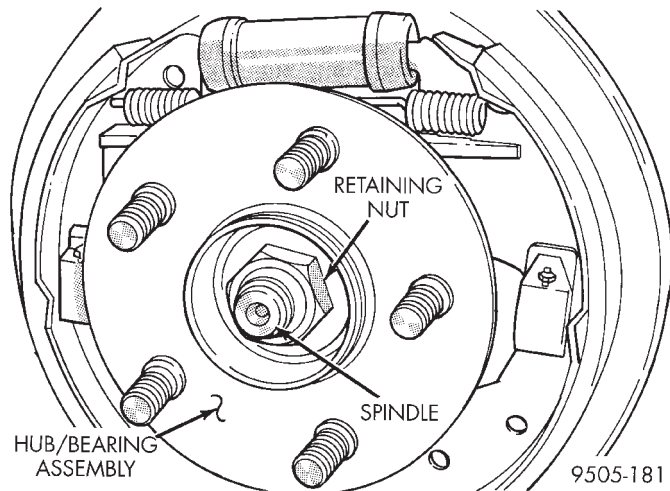
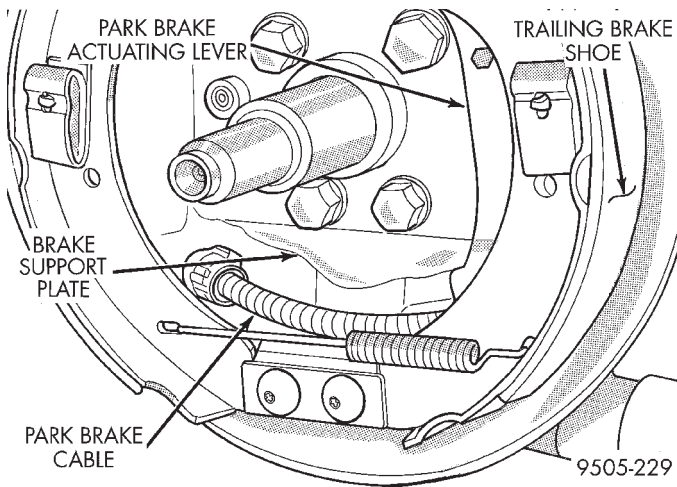

Fig. 156 Hub/Bearing Assembly Retaining Nut
Fig. 157 Park Brake Cable At Actuating Lever
(19) Remove the rear hub/bearing assembly retaining nut (Fig. 156).
(20) Remove the rear hub/bearing assembly from the rear spindle.
(21) Remove the park brake cable from the park brake actuating lever on the trailing brake shoe (Fig. 157).
(4) Install the park brake cable on the park brake actuating lever of the trailing brake shoe (Fig. 157).
(5) Install hub/bearing assembly on rear spindle. Then install a **new** rear hub/bearing assembly retaining nut (Fig. 156). Torque hub/bearing assembly to spindle retaining nut to 250 N·m (185 ft. lbs.).